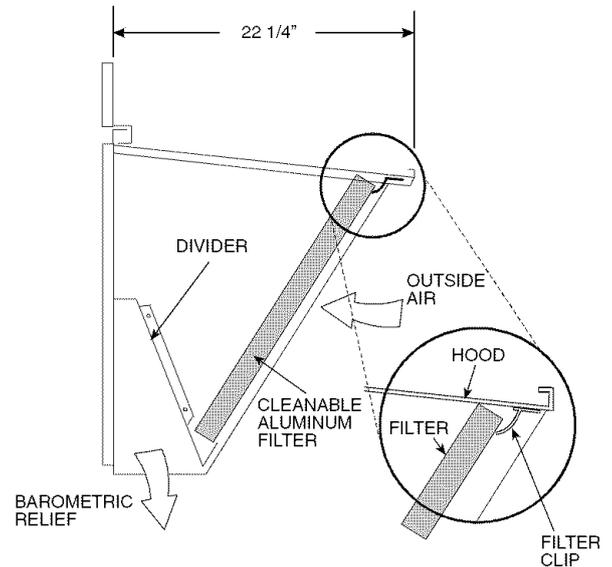

Fig. 30 — Filter Installation
7. Open the filter clips which are located underneath the hood top. Insert the aluminum filter into the bottom filter rack (hood divider). Push the filter into position past the open filter clips. Close the filter clips to lock the filter into place. See Fig. 30.